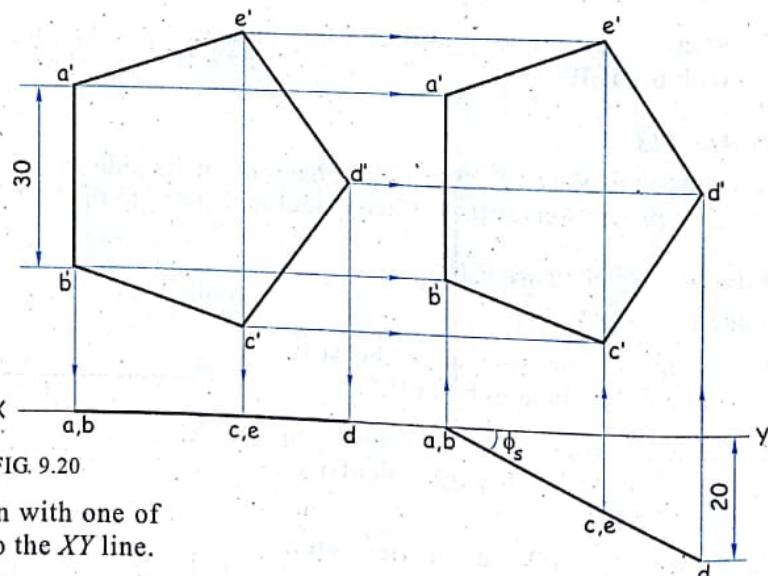

FIG. 9.20
**Solution :** Refer figure 9.20.